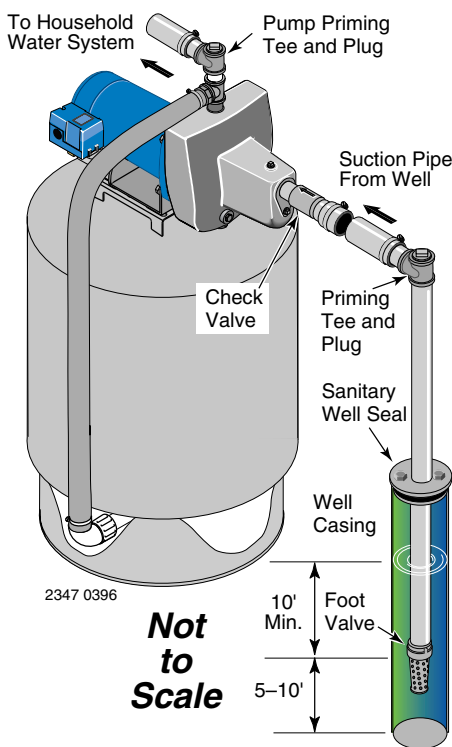

Figure 2: Cased Well Installation
CASED WELL INSTALLATION, 2” OR LARGER CASING (FIGURE 2)
Step 2. Assemble the foot valve, strainer, and well pipe (see Figure 2). Make sure that the foot valve works freely.
Step 4. Install a priming tee, priming plug, and suction pipe to the pump (see Figure 2). Connect the pipe from the well to the pump suction port, using the fewest possible fittings – especially elbows – as fittings increase friction in the pipe (however, include a foot valve – see Figure 2). The suction pipe should be at least as large as the suction port on the pump. Use teflon tape or a teflon-based pipe joint compound on threaded pipe joints. Support the pipe so that there are no dips or sags in the pipe, so it doesn't strain the pump body, and so that it slopes slightly upward from the well to the pump (high spots can cause air pockets which can air lock the pump). Seal the suction pipe joints with teflon tape or a teflon based pipe joint compound. Joints must be air- and water-tight. *If the suction pipe can suck air, the pump cannot pull water from the well.*